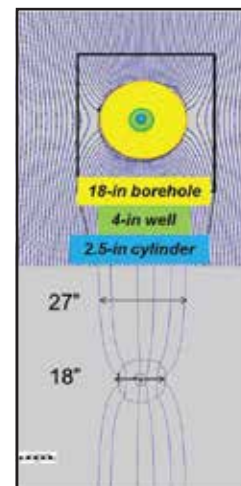

Figure 3: Convergent Divergent Flow-Focusing:
- Convergent divergent flow: “mini” funnel and gate (figure 3)